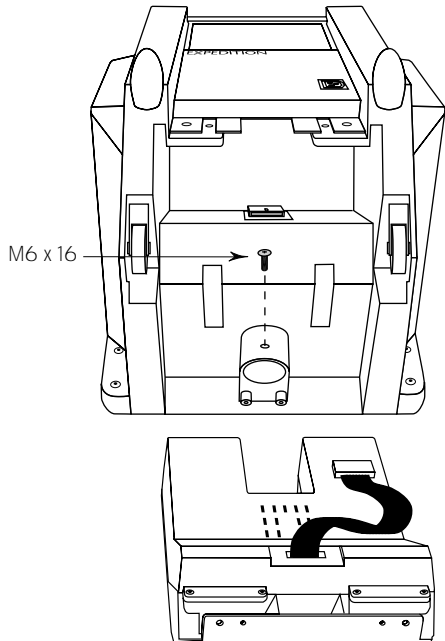
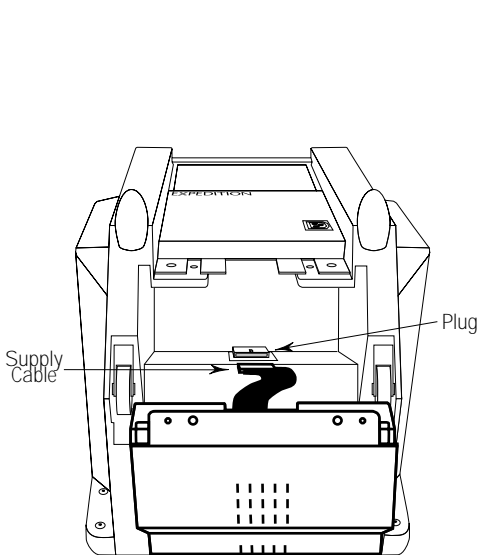

figure 2
figure 3
- 3 Replace thumb with the M6 x 16 screw (figure 2)
- 4 Align the battery as in figure 2 and set its legs in the bottom of the EX20 or EX30 as in figure 3.
- 5 Connect the Battery supply cable as in figure 3. **IMPORTANT! Both the connectors on the supply cable (from the battery) and plug (on the cabinet) are keyed. Be sure to connect the cable correctly or you'll risk shorting the battery which may result in fire and or internal amplifier failure.**